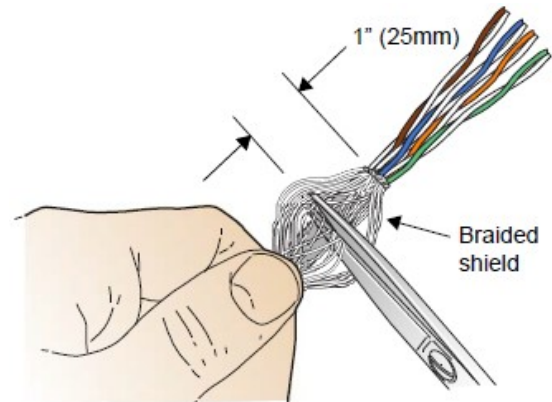

Figure 4
2. Push braided shield straight back and using scissors, trim braided shield back to approximately 1" (25mm) from end of jacket. Refer Figure 4